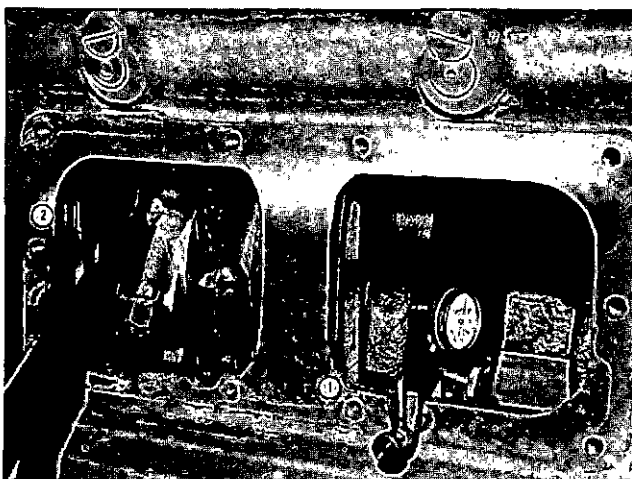

Fig. 5-44. Checking crankshaft end clearance
The check can be made by attaching an indicator (1, Fig. 5-44) to rest against flywheel/crankshaft while prying (2) against a crankshaft throw through an inspection hole if the oil pan is not removed. End clearance must be present with engine mounted in unit and assembled to transmission or converter.